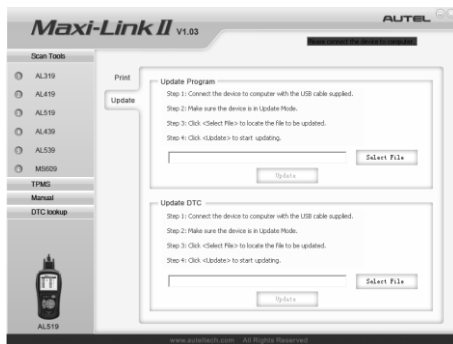

Figure 3.12
- 2) Run the MaxiLinkII Tool Kit in your computer. (Figure 3.12)
- 5) Select the programs to be updated in your computer. There are two types of programs: operating system and DTC library. (Figure 3.12)